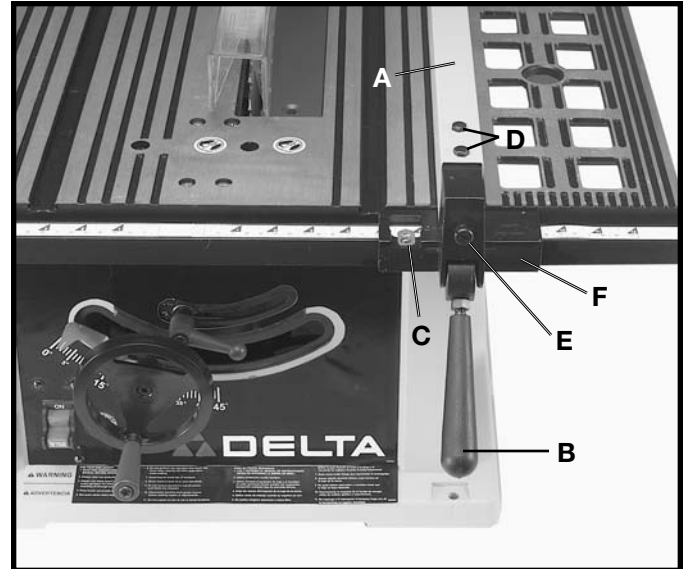

Fig. 30
1. To move the rip fence (A) Fig. 30, along the table, lift up fence locking lever (B), slide the fence to the desired location on the table and push down fence locking lever (B) to lock the fence in position.
2. A pointer is supplied to indicate the distance the fence is positioned away from the saw blade. If an adjustment to the pointer is required, loosen the screw (C) Fig. 30, that fastens the pointer to the fence bracket and adjust the pointer accordingly.
5. Position the fence at one end of the miter gage slot, as shown in Fig. 30. Clamp the fence to the table by pushing down the locking lever (B). The edge of the fence should then line up parallel with the miter gage slot.
7. Loosen the two screws (D) Fig. 30, and lift up locking lever (B). Then while holding the fence bracket (F) firmly toward the front of the saw, move the rear end of the fence (A) until it is parallel with the miter gage slot. Then tighten two screws (D) and push down locking lever (B).
8. The clamping action of the fence (A) Fig. 30, can be adjusted by lifting up locking lever (B) and turning screw (E) clockwise to increase or counterclockwise to decrease the clamping action of the fence.